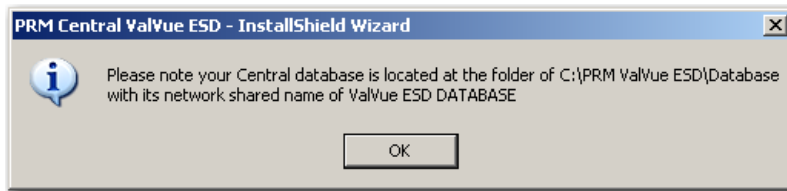

Figure 18 Database Directory Reminder
14. Click **OK** and another dialog appears (Figure 18).